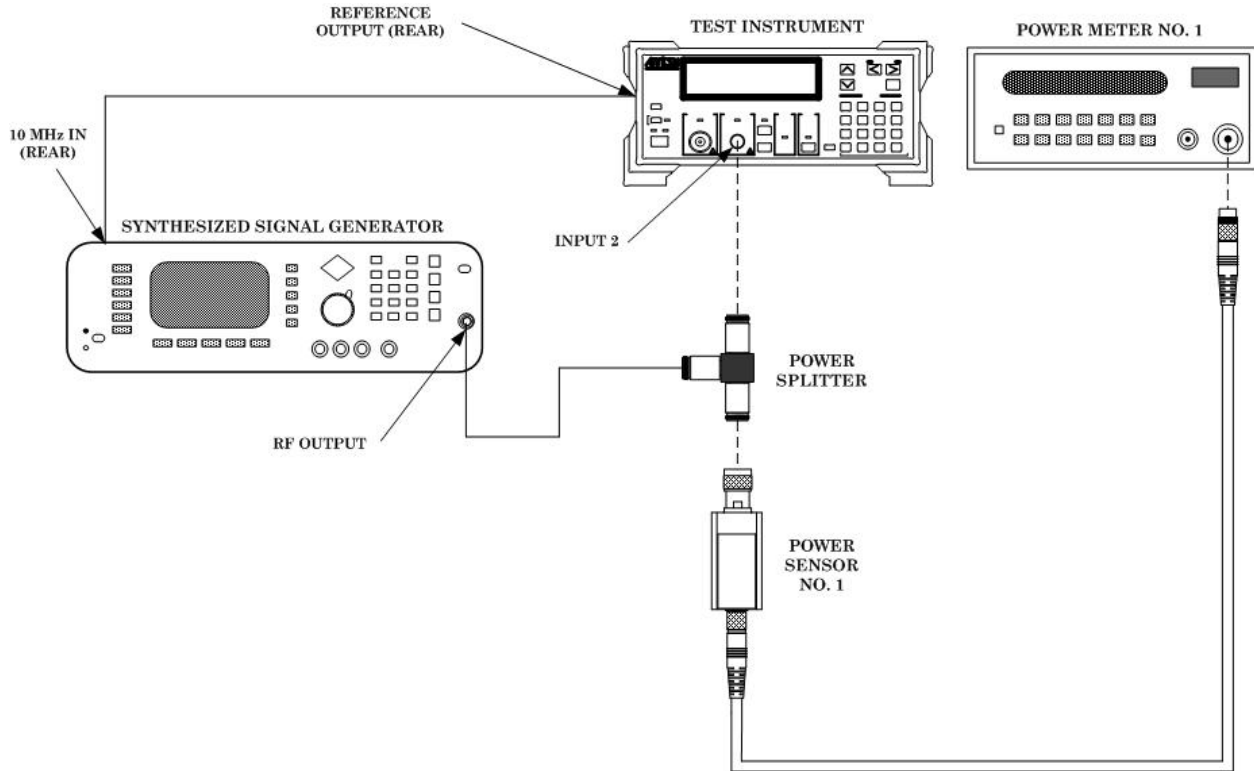

Figure 2. Input 2 sensitivity (50 Ω).
- (5) Connect equipment as shown in figure 2.